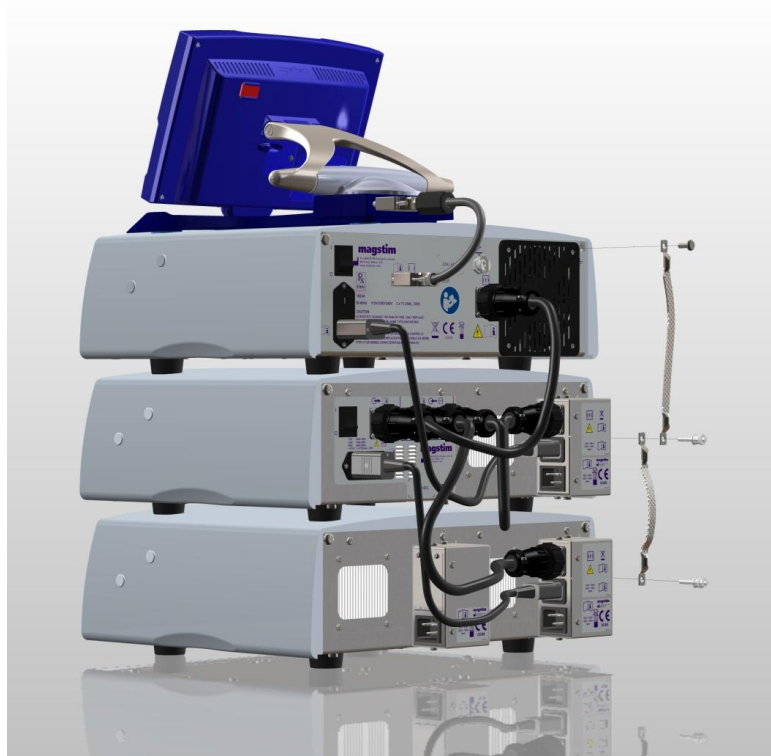

Figure 4.3: Attaching the earth strap
8. Attach the earth straps provided as illustrated in figure 4.3.